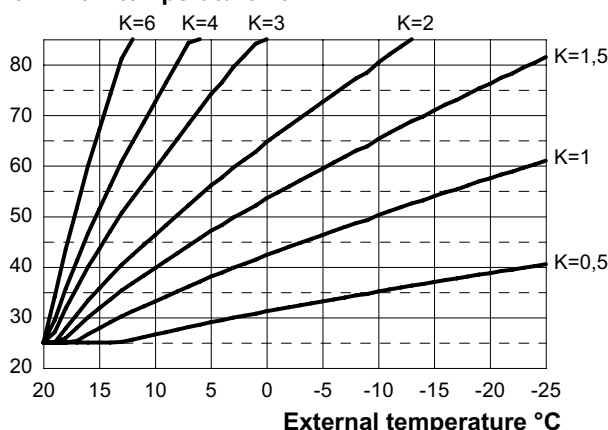

Fig. 7.16
If the boiler is **EQUIPPED** with the remote control (optional) refer to Fig. 7.16.
sary to set this parameter based on the efficiency of the heating plant in order to optimise the flow temperature (Fig. 7.16).
E.g. In order to have a flow temperature at the heating plant of 60°C with an external temperature of -5°C, set a K at 1.5 (sectioned line in Fig. 7.16).
- Using keys 15 or 16 it is possible to change the value of parameter 15 from a minimum of **01** to a maximum of **60** based on the selected bend of the K coefficient in Fig. 7.16 (the value read on the display corresponds to K coefficients decimal values).